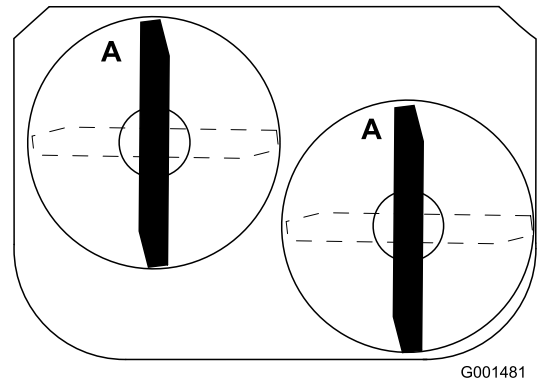

Figure 48
1. Rotate the blades until the ends face forward and backward (Figure 48).